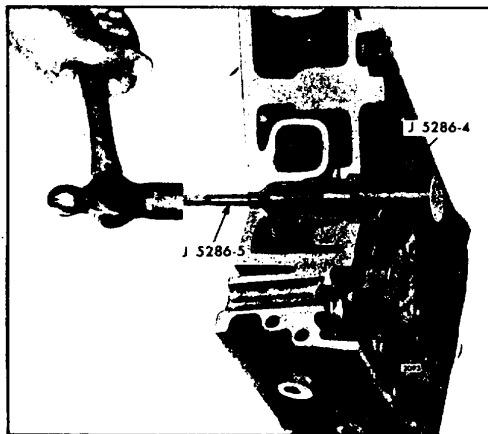

Fig. 1. - Removing Injector Tube
The bore in the cylinder head for the fuel injector is directly through the cylinder head water jacket as shown in Fig. 1. To prevent cooling water from contacting the injector and still maintain maximum cooling of the injector, a tube is pressed into the injector bore. This tube is sealed at the top with a neoprene ring and upset into a flare on the lower side of the cylinder head to create water-tight and gas-tight joints at the top and bottom.
2. Place the Injector tube Installer J 52864 in the injector tube. Insert the pilot J 5286-5 through the small opening of the injector tube and thread the pilot into the tapped hole in the end of the installer (Fig. 1.).